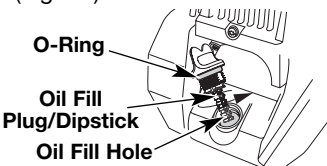

Fig. 22
6. If the level is low, add a small amount of oil to the oil fill hole and recheck (Fig. 22). Repeat this procedure until the oil level reaches the top of the dipstick.
**NOTE:** Make sure the O-ring is in place on the oil fill plug/dipstick when checking and changing the oil (Fig. 22).